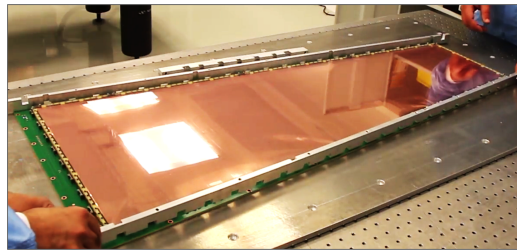

Figure 96: Fixing the assembly jig (1).
Step 11: Clamp the drift board to the assembly table with the aluminum bars, the chamfers should be oriented towards the inner side of the trapezoid (Fig. 96).